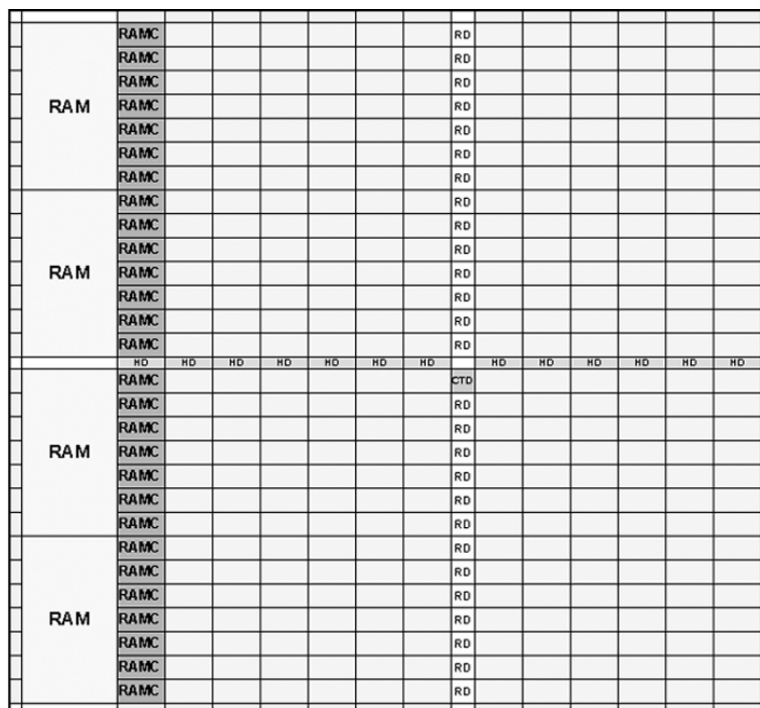
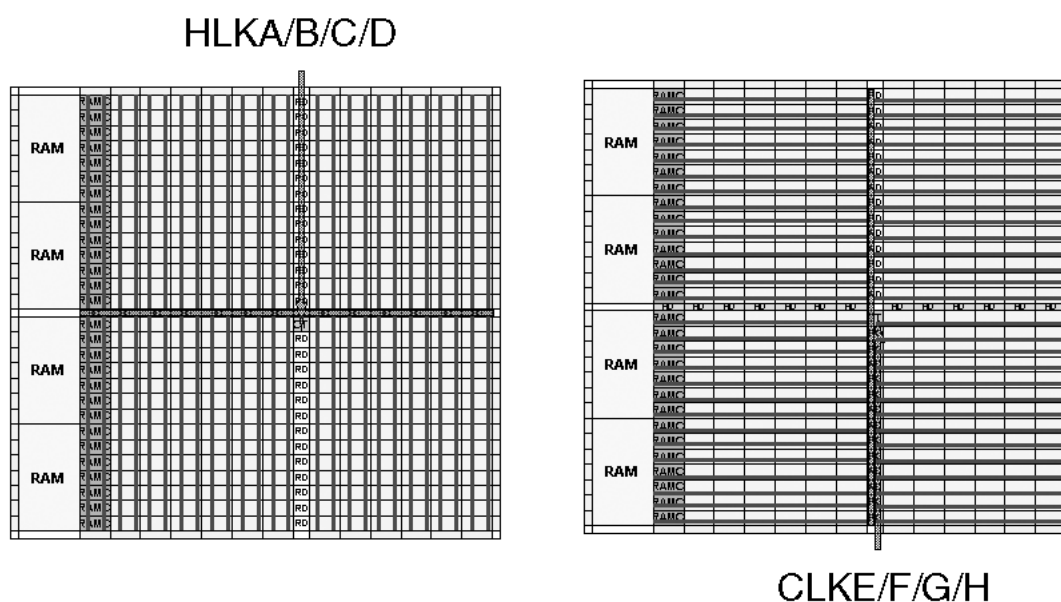

Figure 2-40 • CTD, CD, and HD Module Layout
Figure 2-41 • HCLK and CLK Distribution within a Core Tile
The ClockTileDist Cluster contains an HCLKMux (HM) module for each of the four HCLK trees and a CLKMux (CM) module for each of the CLK trees. The HCLK branches then propagate horizontally through the middle of the core tile to HCLKColDist (HD) modules in every SuperCluster column. The CLK branches propagate vertically through the center of the core tile to CLKRowDist (RD) modules in every SuperCluster row. Together, the HCLK and CLK branches provide for a low-skew global fanout within the core tile (Figure 2-40 and Figure 2-41).